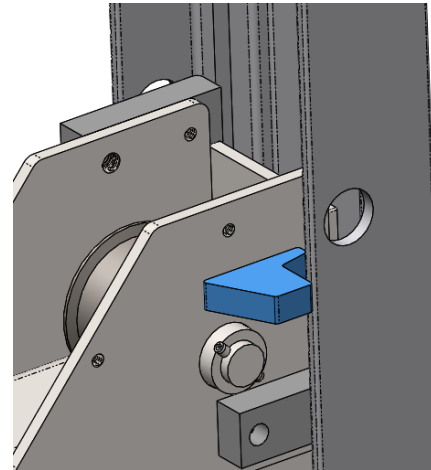
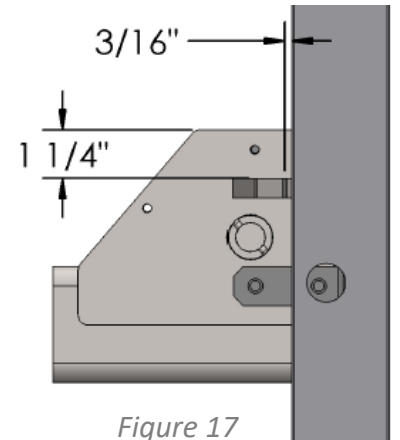

Figure 16
Figure 17
39. Test fit the support side stop plate on the back plate of the front support side cross-beam as shown in *Figure 16*. The top of the stop plate should be approximately $1 \frac{1}{4}$ " down from the top of the cross-beam plate, and the face parallel with the post channel should be $\frac{3}{16}$ " away from the post as shown in *Figure 17*. Mark the outline of the support side stop plate.
41. **With the platform lowered to the floor**, install the support side stop plates in the same location shown in *Figure 17* by welding the top, around the outside vertical edge, and the bottom of the stop plate.